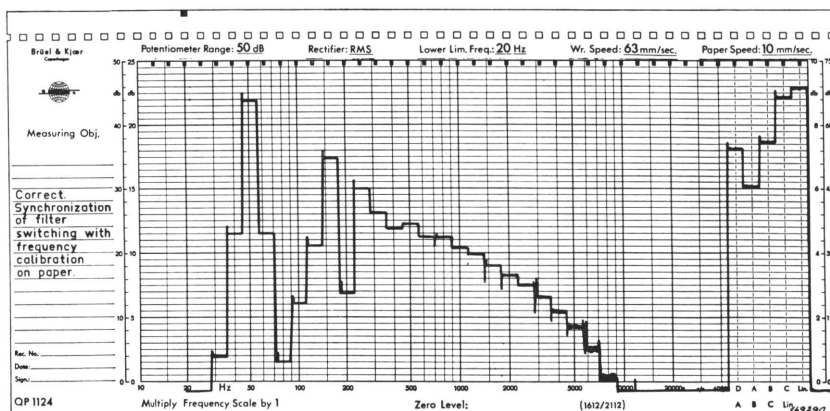

Fig.4.9 Correct Synchronisation between Recording Paper and Filter Switching
4. Correct synchronization is obtained when the switching over from the "80" Hz (c/s) to the "100" Hz (c/s) filter takes place on the "90" Hz (c/s) line only, refer Fig.4.9
To ensure that synchronization is achieved within the proper 1/3 octave filter the component of the power supply fundamental frequency should be represented as the highest value on the spectrogram within the filter covering this fundamental. From Fig.4.9 it is seen that the fundamental (here 50 Hz (c/s)) is the highest value and rests within the filter concerned. In the case of a 60 Hz (c/s) power supply frequency the highest value would be contained within the 63 Hz (c/s) filter.